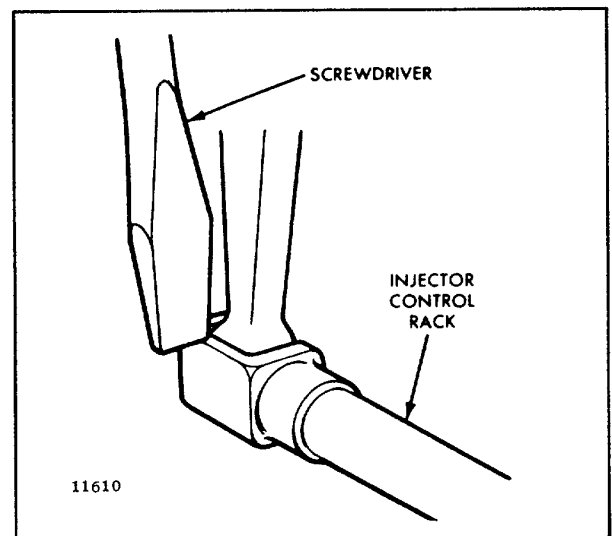

Fig. 3. - .Checking Injector Rack "Spring"
7. To be sure the rack control lever is properly adjusted, the following check should be performed: Press down on the injector rack with a screwdriver or finger tip (Fig. 3). A light pressure should cause the rack to rotate. The rack is sufficiently tight if the rack returns or springs back to its original position when the pressure is removed. The rack is too tight if a heavy pressure is required to rotate the rack.